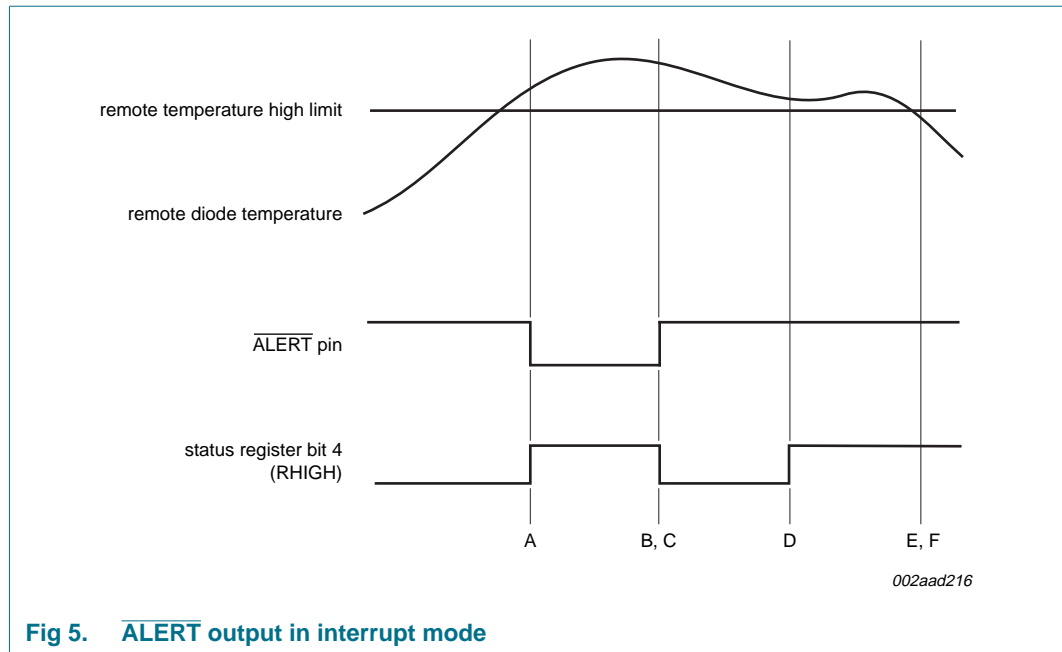

Fig 5.  $\overline{\text{ALERT}}$  output in interrupt mode
In the interrupt mode, the  $\overline{\text{ALERT}}$  output is used to provide an interrupt signal that remains asserted until the interrupt service routine has elapsed. In the interrupt operating mode, a read of the Status register will set the  $\overline{\text{ALERT}}$  mask bit 7 of the Configuration register if any of the temperature alarm bits of the Status register is set, with exception of BUSY (D7) and OPEN (D2). This protocol prevents further  $\overline{\text{ALERT}}$  output triggering until the master device has reset the  $\overline{\text{ALERT}}$  mask bit at the end of the interrupt service routine. The Status register bits are cleared only upon a read of the Status register by the serial bus master (see Figure 5). In order for the  $\overline{\text{ALERT}}$  output to be used as an interrupt, the ALERT Configure bit D0 of the ALERT Mode (AM) register must be set LOW (POR default).